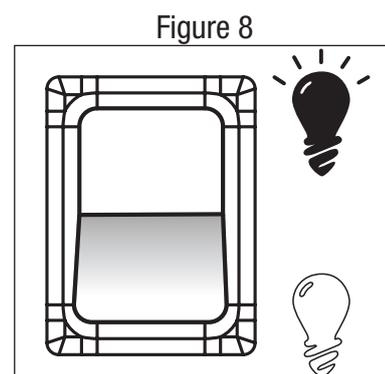

Figure 8
1. Make sure the grill light button is in the ⚪ (OFF) position (Figure 8).
1. Push grill light button to ⚪ (OFF) position (Figure 8).